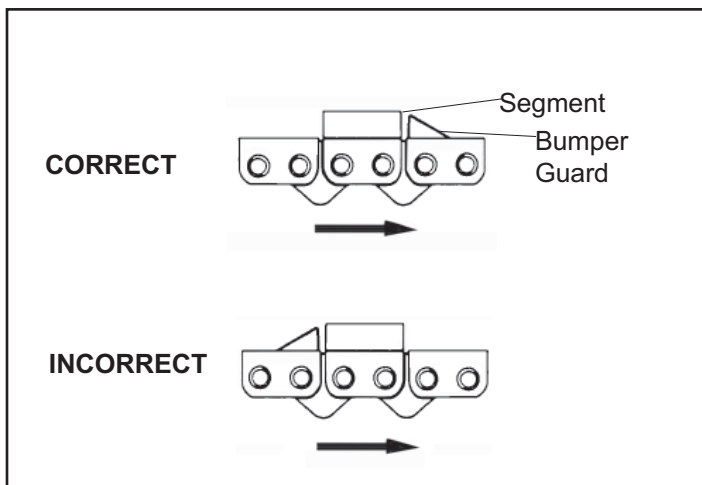

Figure 1. Chain Direction
6. Check that the chain is properly installed. The chain is designed to only operate in one direction. Make sure the chain is installed so the bumper guard precedes each diamond segment. See figure 1.